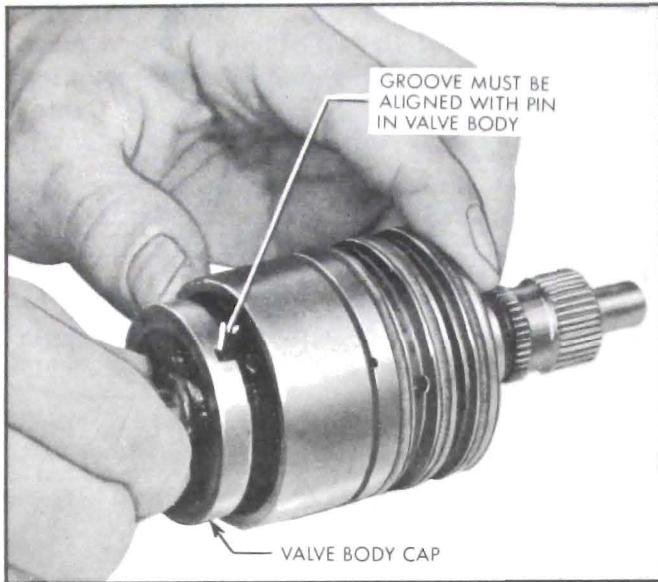

Figure 8-48—Assembling Valve Assembly
3. Assemble the stub shaft torsion bar and cap assembly in the valve body, aligning the groove in the valve cap with the pin in the valve body. See Figure 8-48. Tap lightly on the cap with a soft mallet until cap is against the shoulder in the valve body. Valve body pin must be in the cap groove. Hold these parts together during the rest of valve assembly.